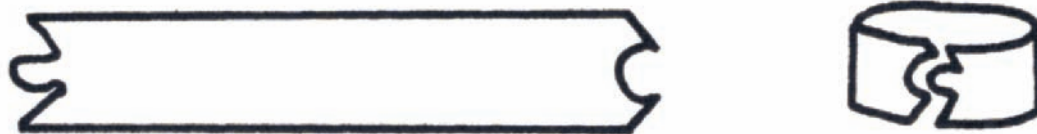

Figure 6.4. Adjustable Ring.
2. Cut out the design and fit it around a finger, allowing enough negative space between the ends for adjustment. (See Figure 6.4, p. 260.)